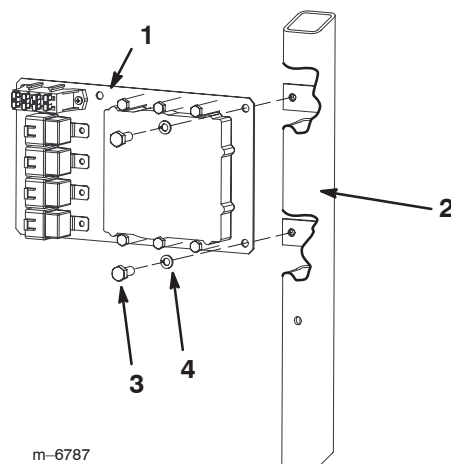

Figure 6
- B. For the Multi Pro 5600 and 5700 install the mount plate using 2 bolts (5/16 x 3/4 inch) and 2 lock washers (5/16 inch) as shown in Figure 6.